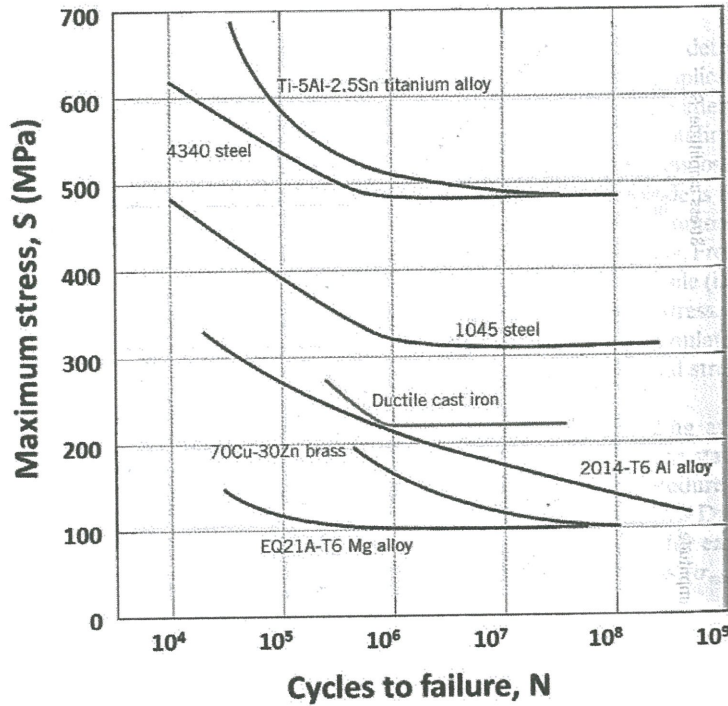

FIGURE Q3 (a): Maximum stress (S) versus logarithm of the number of cycles to fatigue failure (N) for seven metal alloys.
- Q3 (a) A cylindrical bar of 1045 steel having the S-N behaviour shown in **FIGURE Q3 (a)** is subjected to rotating-bending tests with reversed-stress cycles. Given the bar diameter is 20.0 mm, factor of safety 2.5 and distance between loadbearing points is 55.0 mm. Determine the maximum cyclic load that maybe applied to ensure that fatigue failure will not occur. (4 marks)
- (ii) The presence of chemically active environment may lead to a reduction in fatigue life for corrosion fatigue. Based on corrosion fatigue phenomena, propose **TWO (2)** measures that may be taken to prevent or reduced the occurrence of corrosion fatigue and **TWO (2)** measures that can be taken to extend fatigue life. (8 marks)